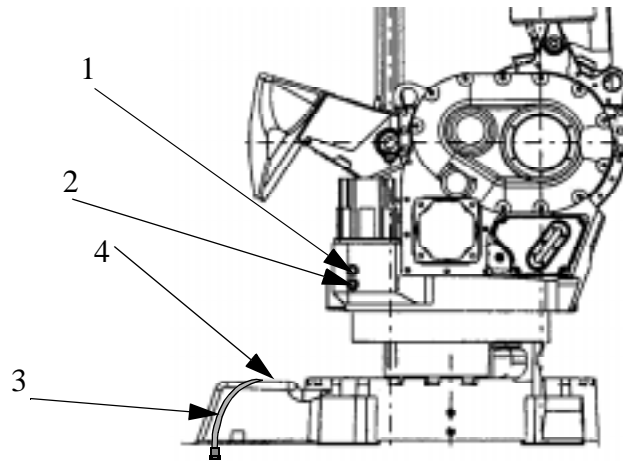

Figure 4 Lubricating gearbox, axis 1
- Remove the cover on the base (4), see Figure 4.
- The drain hose is placed under the cover (3).
- Remove air plug (1).
- Remove the filling plug (2).
- Fill up with new oil until the oil level reaches the lower edge of the filling hole (2). See Volume below.